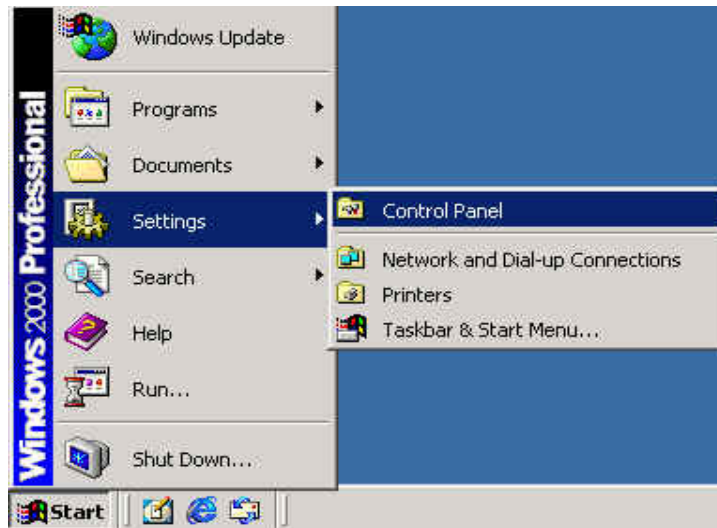

Figure 6-7. Select settings
**Step 1:** Click “Start” in the task bar, then click Settings/Control Panel as shown in figure 6-7.